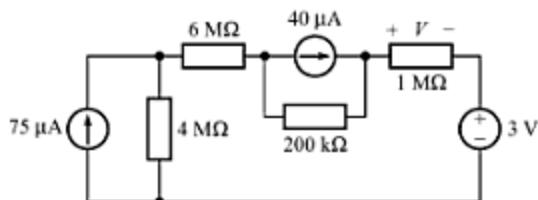

Fig. A-75
- A-34. Find the voltage *V* across the 1-MΩ resistor in the circuit of Fig. A-75, by repeatedly using source transformations. [Ans. 27.23 V]